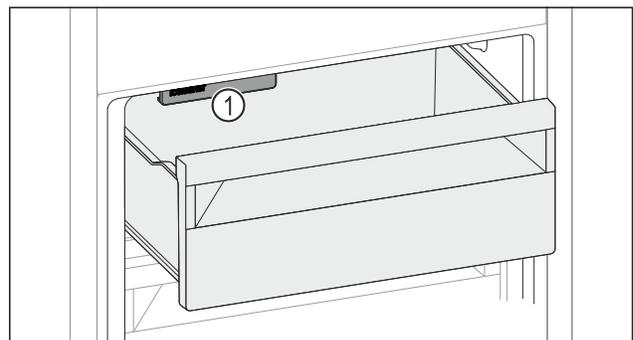

Fig. 143
► Pay attention to the IceMaker *Fig. 143 (1)*.